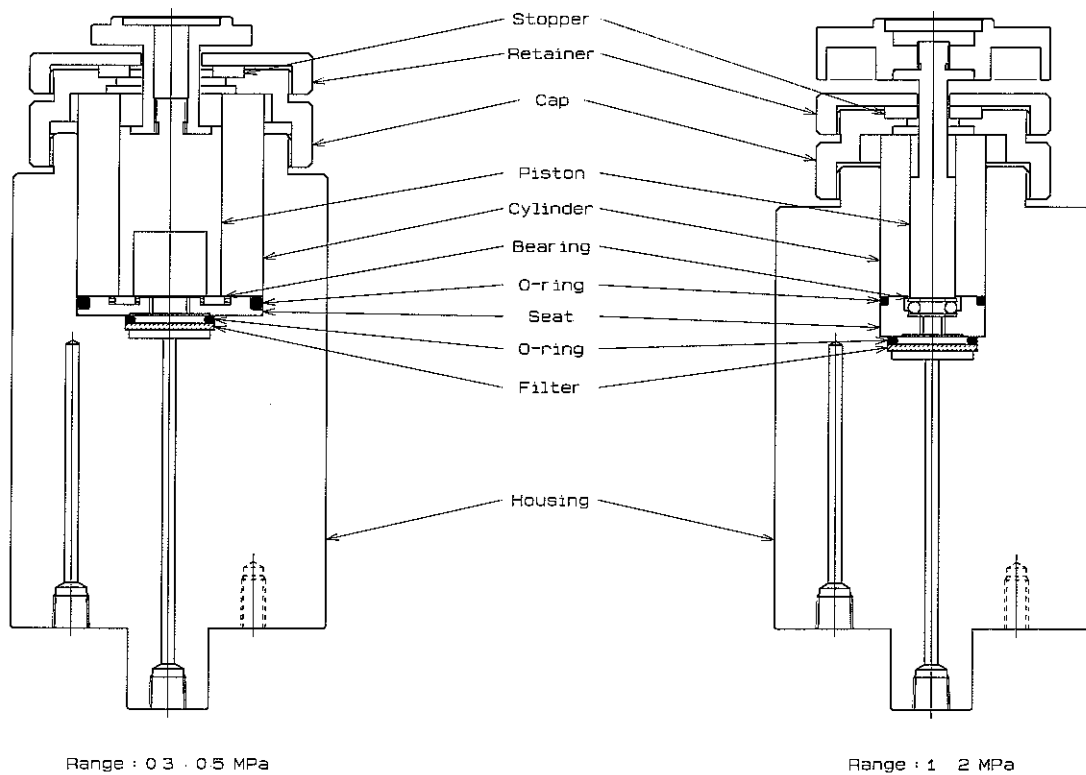

Figure 6-3
- ① Use clean nylon glove to prevent grease or sweat from attaching from your fingers.
- ② Remove the retainer, stopper and cap in that order. The housing incorporates the filter, O-ring, seat, O-ring, and bearing as illustrated in Figure 6-3. Remove the fine dust particle from the housing, using a blower brush.
- ③ The piston and cylinder are packed in clean conditions. Before installing them in position, be sure to clean them according to the procedure given below, and make sure that inner side of the cylinder and outer side of the piston are free from dust.